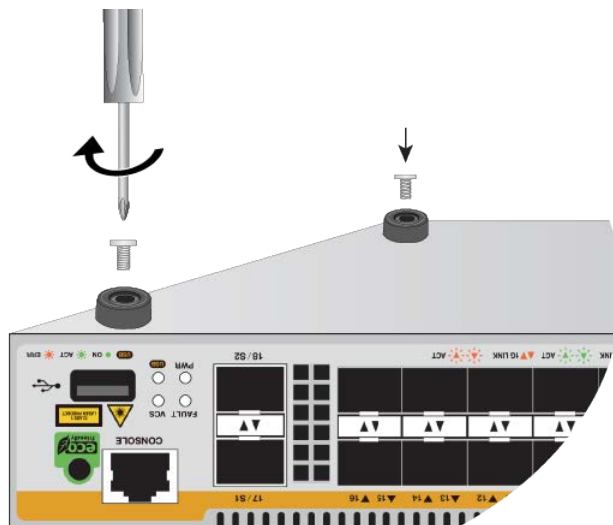

Figure 17. Attaching the Bumper Feet Using Screws
3. Attach the bumper feet to the switch using the M3x6mm screws and a cross-head screw driver. See Figure 17 on page 52.